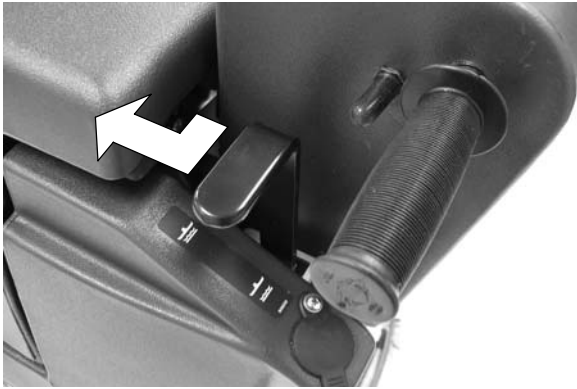

FIG. 15
2. Disengage squeegee lift lever from the up position and lower squeegee (Figure 15).